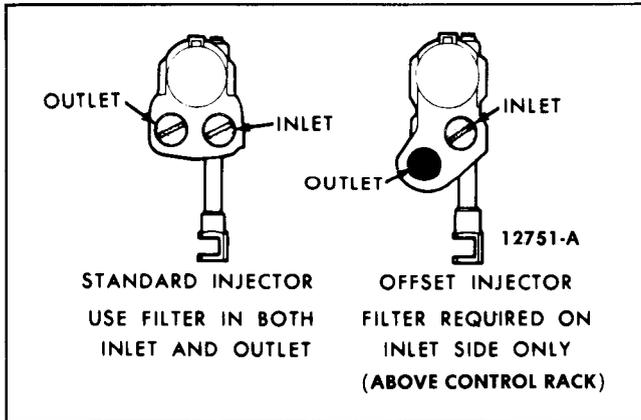

Fig. 35 - Location of Filter in Injector Body
*injector, a filter is used in the inlet side only. No filter is required in the outlet side (Fig. 35).*
Study Figs. 35 through 38 for the proper relative position of the injector parts, then proceed as follows:
**NOTE:** Install a new filter in the inlet side (located over the injector rack) in a fuel injector with an offset body. No filter is required in the outlet side of the offset body injector (Fig. 35).